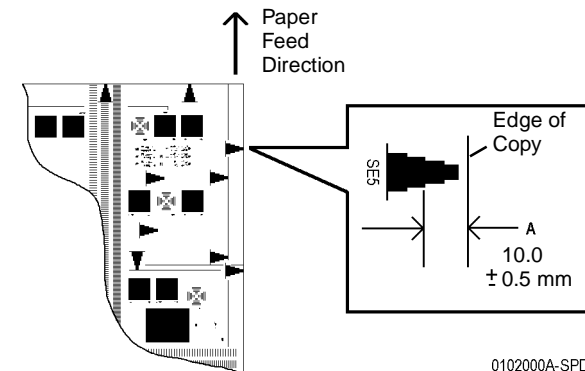

Figure 2 Checking Side Edge Registration of DADF
- c. Check that **A** is $10.0 \pm 0.5\text{mm}$ (Figure 2).